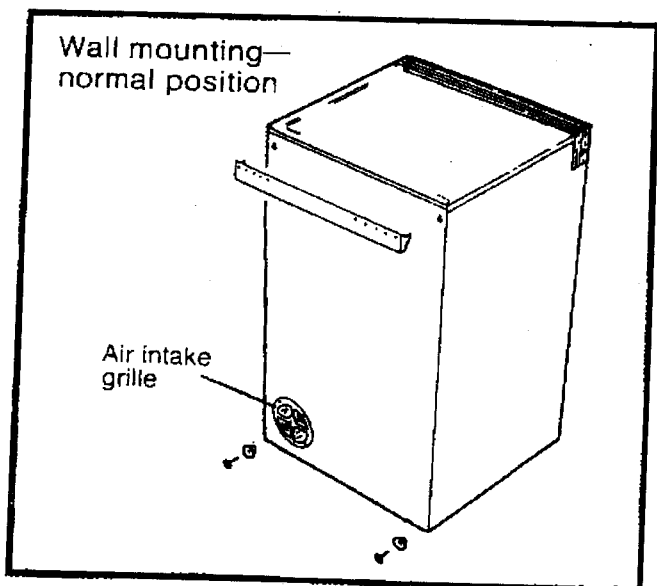

Fig. 6
Alternatively the Wall Mounting Bracket may be used instead of the spacers, as shown in Fig. 6.
(a) Wall mounting up to waist height (Fig. 6).
Fit the plastic spacers under the heads of the bottom screws on each side of the rear panel (see Fig. 6). The wall mounting bracket should then be securely attached to the wall at the desired height. Assemble Dryer to bracket by manouvering the Dryer up and over the two bracket hooks so that they enter the upper vertical slots in the rear panel.
7. Is the rear air intake grille blocked? Remove blockage, clean with a brush or vacuum cleaner. See Fig. 6.